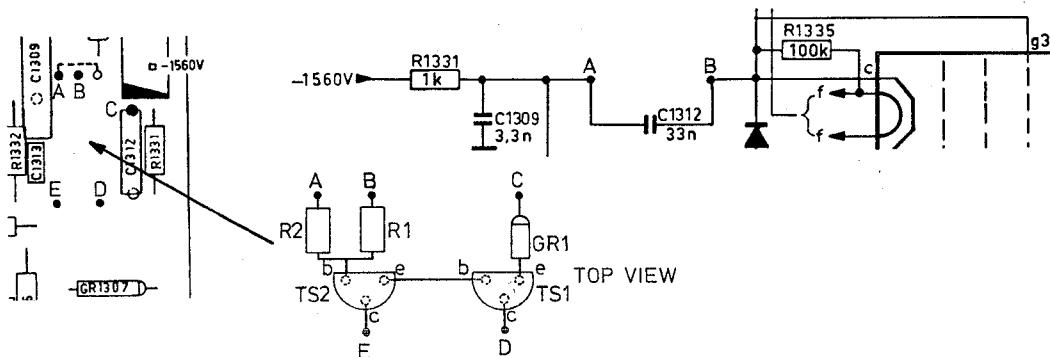

Fig. 2. Part of Z-unit (fig. 3.42 and 3.43 of the manual).
- Solder the parts together as indicated in fig. 2.
- Solder the resistors R1 and R2 and the diode GR1 on the points A, B and C of the Z-amplifier (see fig. 2.).